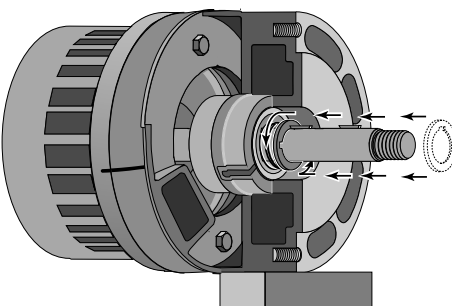

Figure 23
- Step 6. Push the shaft seal and seal spring onto the shaft, after making sure that the seal faces and shaft are clean. *Take care that the shaft shoulder does not damage the carbon seal face*. Follow the seal spring with the spring holder; compress the spring and give the spring holder a quarter turn to lock it under the first shaft key (see Figure 23).